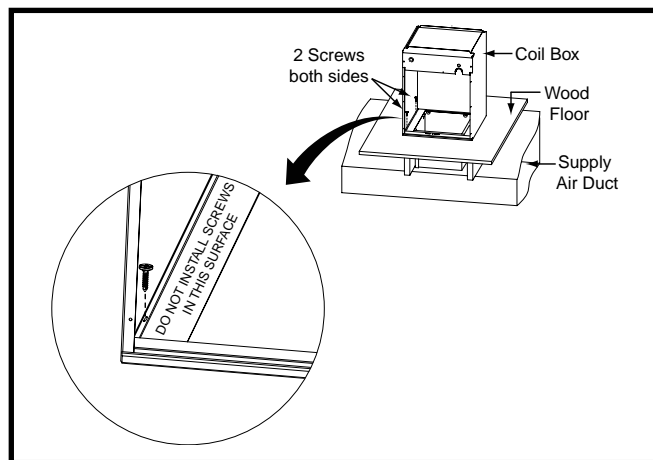

Figure 20. A/C Coil Box Installation
5. Secure the A/C coil box to the connector assembly and wood floor with appropriate size screws at all four corners. **NOTE:** To minimize coil box damage, see Figure 20 for appropriate screw locations.